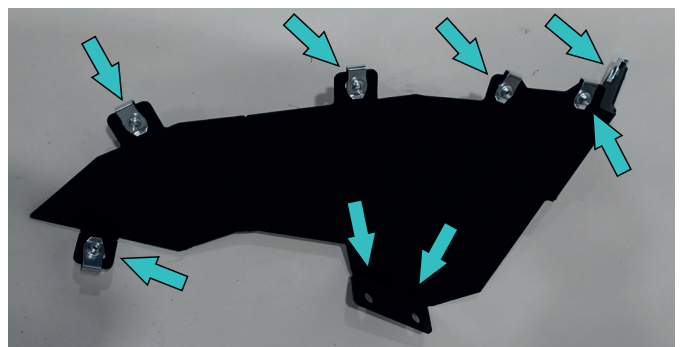

Fig.78
73. Fit U-nuts M6 (item L) on flaps (item 11, 12) (fig.78).